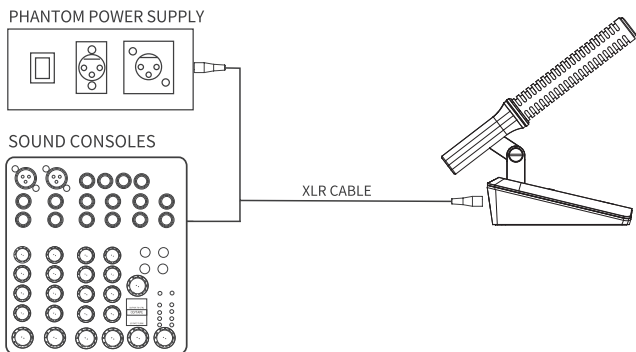

Figure 1
- ① Connect the microphone to the PA device via the XLR output cable, as shown in Figure 1.
- ② Turn the volume knob of the PA device to the zero position first, then turn on the power switches of the PA device and the microphone, and slowly increase the volume of the PA device until it is suitable.
- ③ The gain is set as "0" by default. The automatic gain switch can be adjusted based on the on-site sound amplification for quick system setting. When the switch is turned to the "-10dB" position, the max SPL can be lowered to reduce popping sounds; when the switch is turned to the "10dB" position, long-distance pickup is enabled to increase the microphone sensitivity in picking up sounds.
- ④ You should keep a proper distance of 20-80cm with the microphone when speaking.